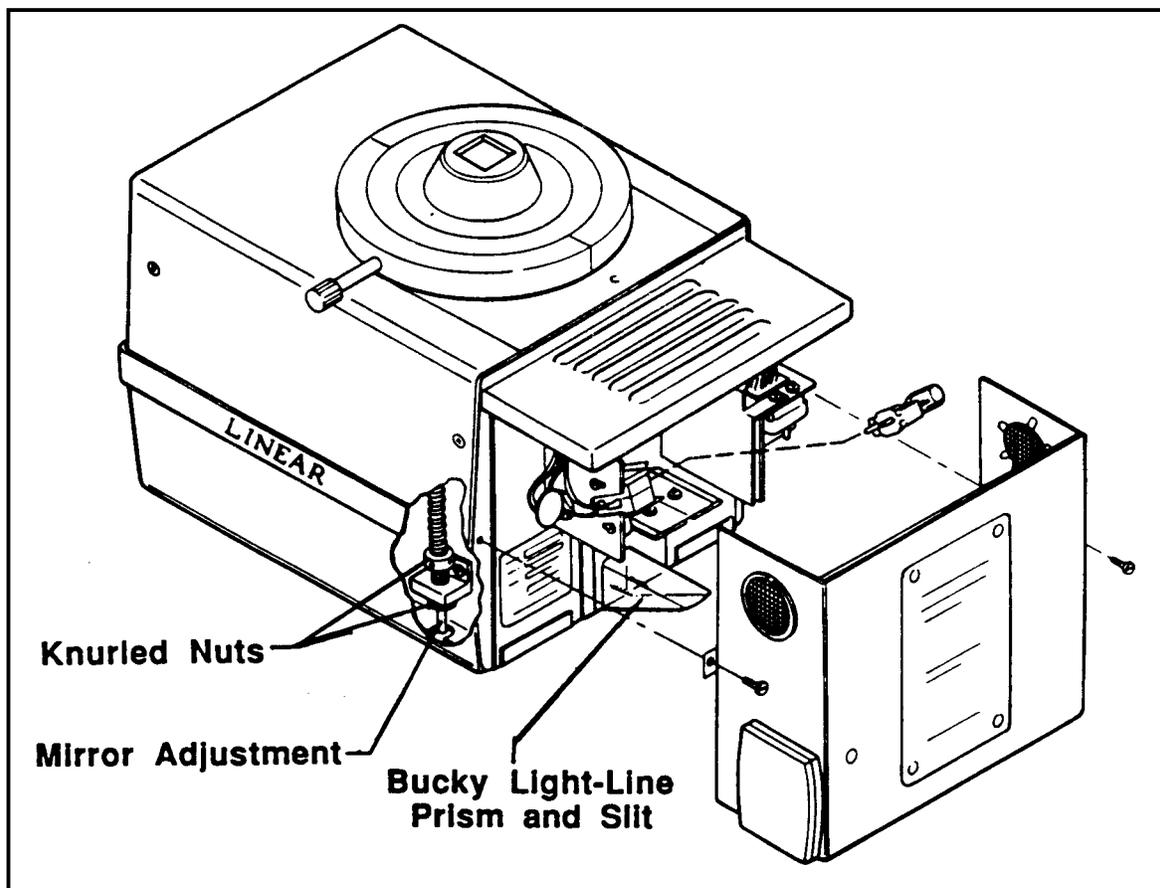

Figure 3-83
(8) If the developed X-ray image is soft-centered in the longitudinal direction, loosen the screws securing the lamp bracket.
(9) Use a pair of long-nose pliers to move the bracket slightly until the light field has shifted to a position that is centered to the developed X-ray image in the longitudinal direction. Tighten the two screws securing the lamp bracket.
(10) If the developed X-ray image is in error in the cross-table, adjust the angle of the mirror using the knurled nuts until the light field has shifted to a position that is centered to the developed X-ray image. (See Figure 3-83.)
(11) Repeat steps 6j(3) through 6j(6(b)) to confirm the results of the above adjustments.
(12) Tighten the lamp bracket screws and replace the lamp housing cover.